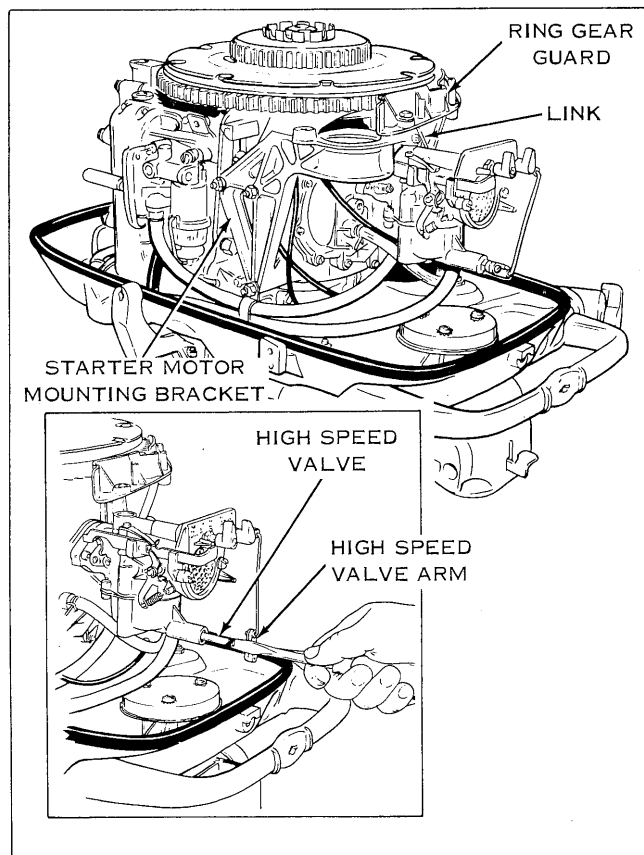

FIGURE 2
3. Remove starboard electric starting motor mounting bracket from powerhead and ring gear guard. See Figure 2.
Completely back off high speed valve packing nut and with the use of a screwdriver completely remove high speed valve and packing nut from carburetor bowl. See Figure 2.